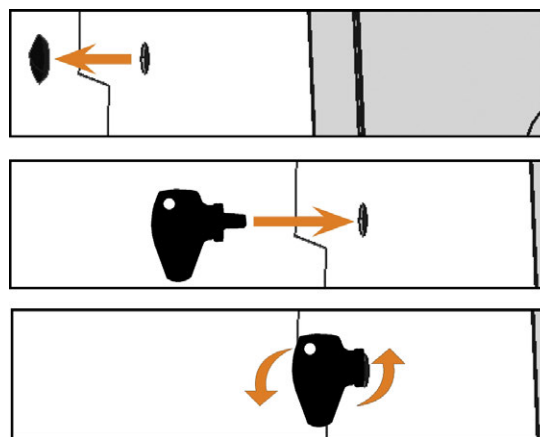

FIG. 47 USING THE KEY FOR THE EMERGENCY RELEASE
2. Deactivate the safety interlock of the working chamber door, as shown in the figure (↗ Fig. 47 see below):